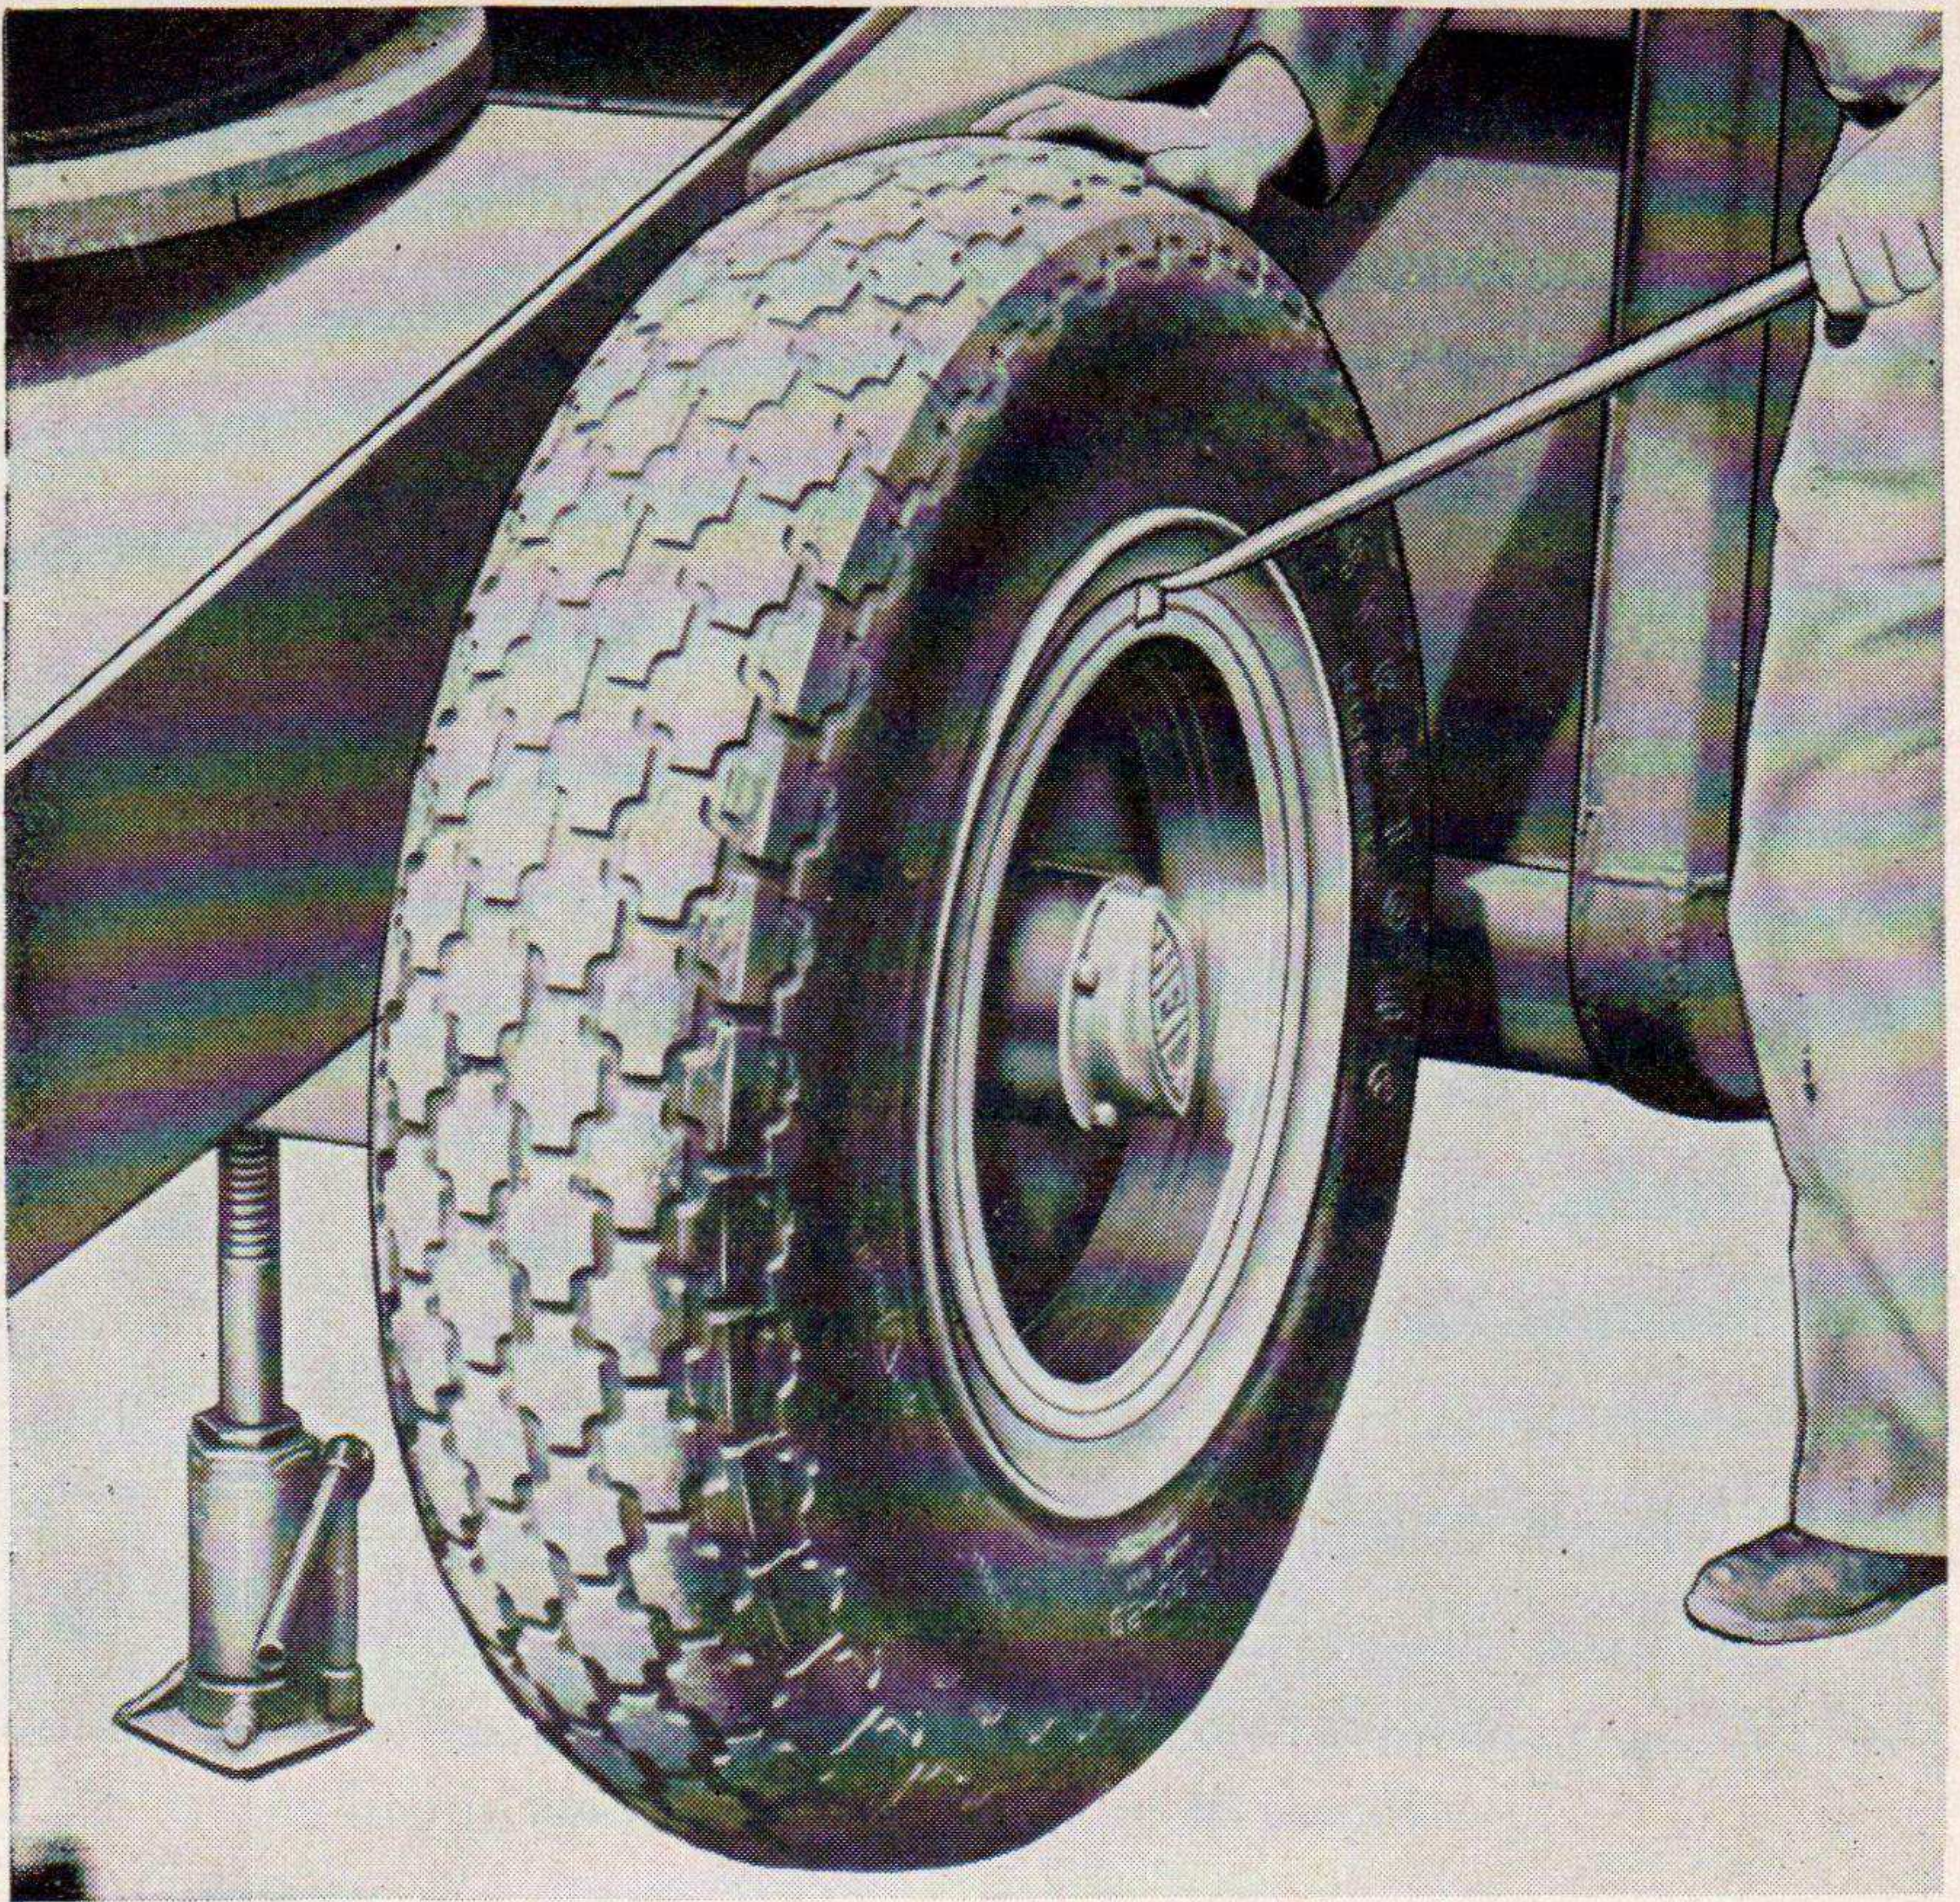

Figure 24. Removing locking ring.
- (1) Remove the scraper wheel as outlined in paragraph 40*a*.
- (2) Let all the air out of the tire; then insert a small pry bar in the slot of the locking ring (fig. 24).